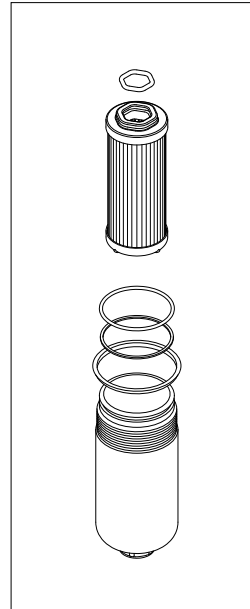

fig. 19
- (Fig. 19) Fit #1: the anti-extrusion ring and #2: the O-ring in the bowl groove, insert the Hex Ring in the filter element cap